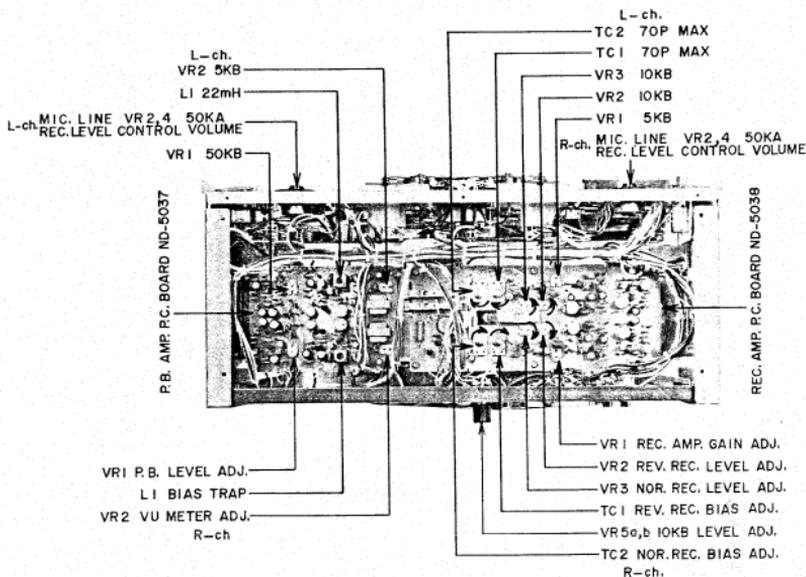

Fig. 15
(See Fig. 15)
- 2) Prior to adjustment, record at non-signal input and adjust Bias Trap L1 (22 mH) so that the bias leak at line out is minimum. (See Fig. 15)